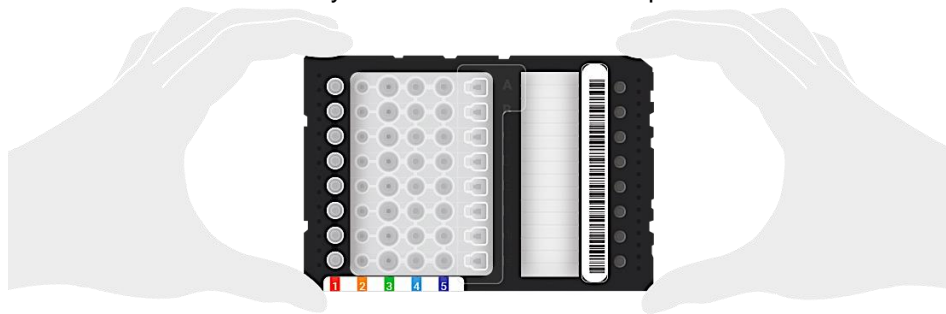

Figure 3. Proper handling and placement orientation of an Ionic Tissue chip.
3. When prompted, remove an Ionic Tissue chip from its packaging, handling only by the side skirting, and place on the instrument stage with the barcode on the right as shown in **Figure 3**. Gently apply pressure to all four corners of the fluidic chip simultaneously to confirm that the chip is fully seated on the stage. Press the **Arrow** on the right side of the screen to continue.